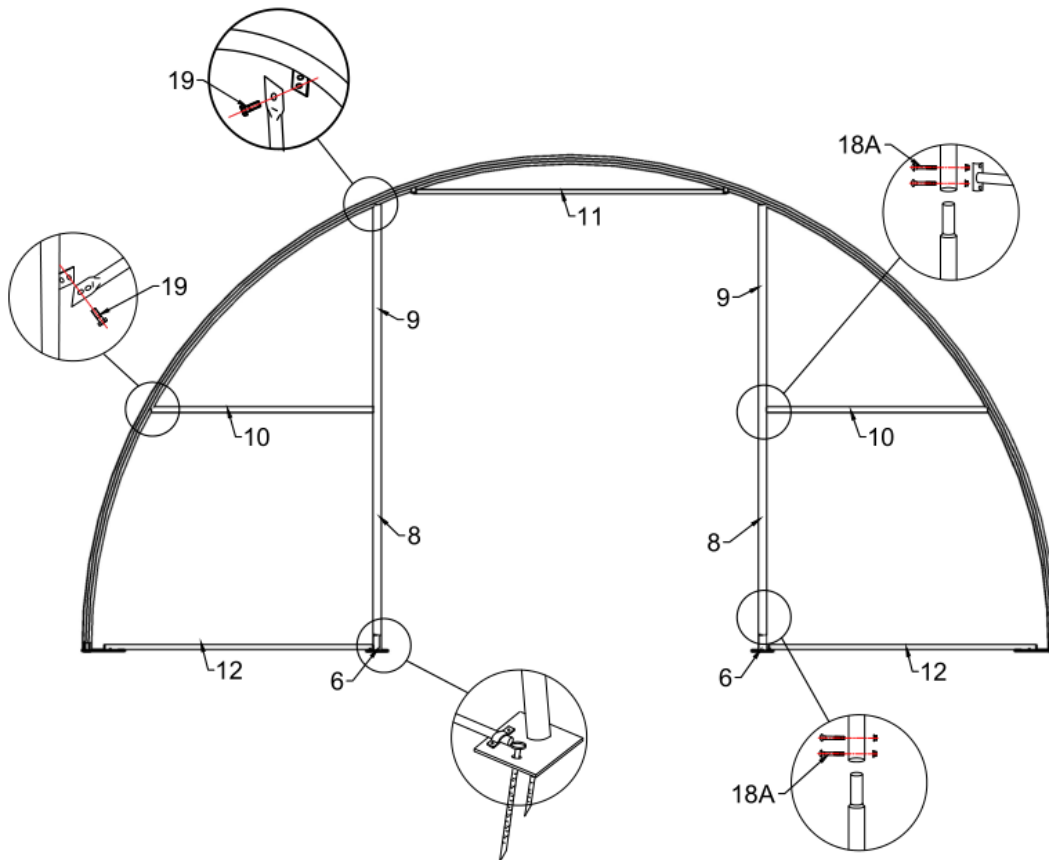

Figure 6
- When finish installing the first two arches into the base plates, use purlins (No.4) to connect them by Bolt Carriage M10x90 (No.17). Then install the third arch into the base plate and connect the Purlins. In this turn, fix all other arches and other purlins. Then come to install the front panel and back panel. Find the relative components and assemble them. The horizontal Strengthening Support Tube (No.4A) under the roof bent tube is used for making the frame be much stronger. Please check the figure 6 and 7 for reference.